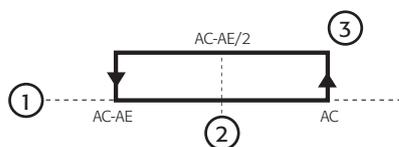

Fig. 4.I
- indicates that the limit between Ac and AE has been exceeded (deriving from the calculation:  $Ac - AE/2$ , see Fig. 4.I);
- indicates that the temperature set point Ac has been exceeded (see Fig. 4.I);